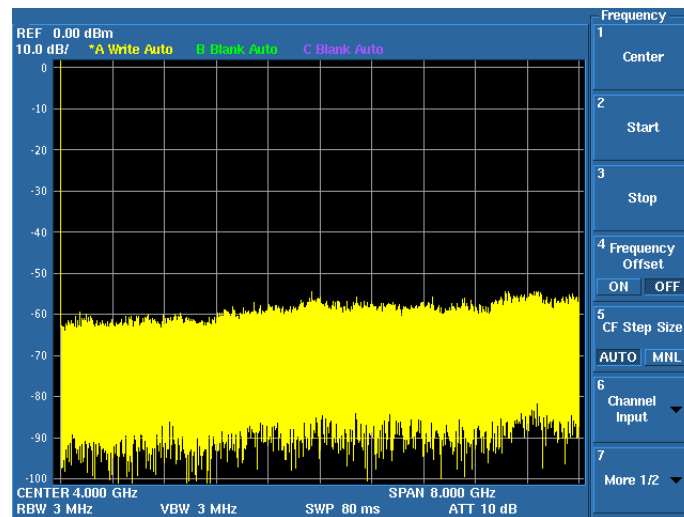

Figure 3-6 Initial Screen
5. The result of the self-diagnostics and the initial screen are displayed. The initial screen display may differ from Figure 3-6 depending on the status of the settings when the power supply was last turned off.